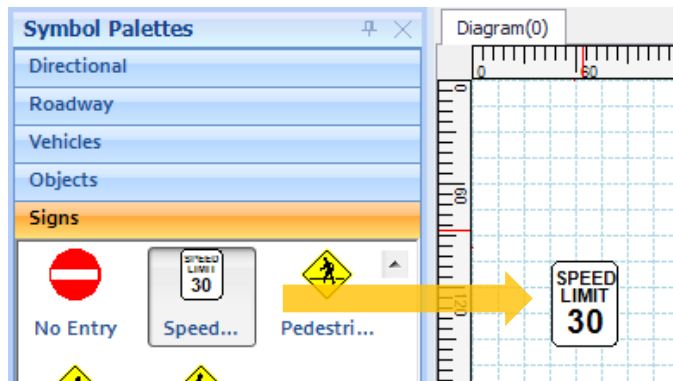

Figure 116. Dragging Symbol to Drawing Page
2. Drag the symbol to the drawing page, as shown in Figure 116.